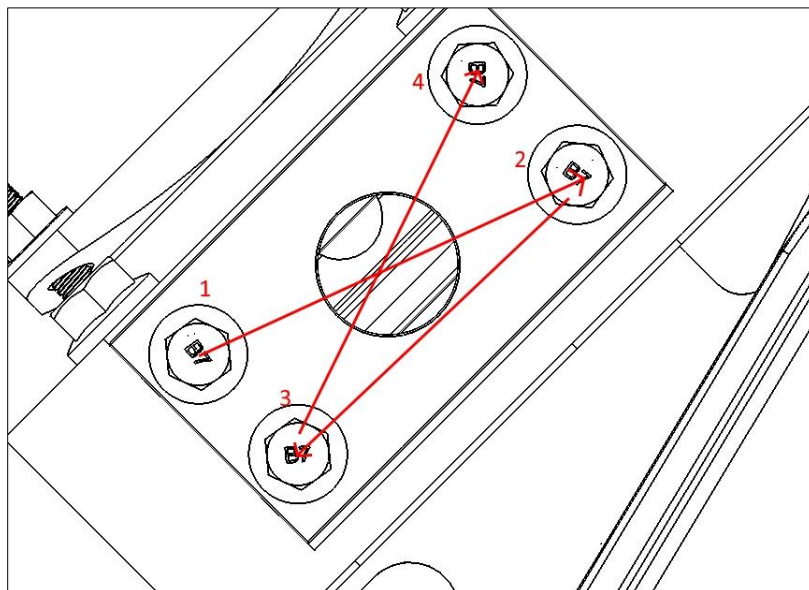

Figure 3: Tightening Pattern
6. Install in a crisscross pattern across the flange with hand tools until hand tight, see figure 3. Torque the fasteners in order based on lubricated or non-lubricated chart. If there is any question with lubrication being on the bolt, the lower torque value should be used. Anti-seize is not required, but if used, only use very little on the first couple of threads and torque based on the lubricated value.